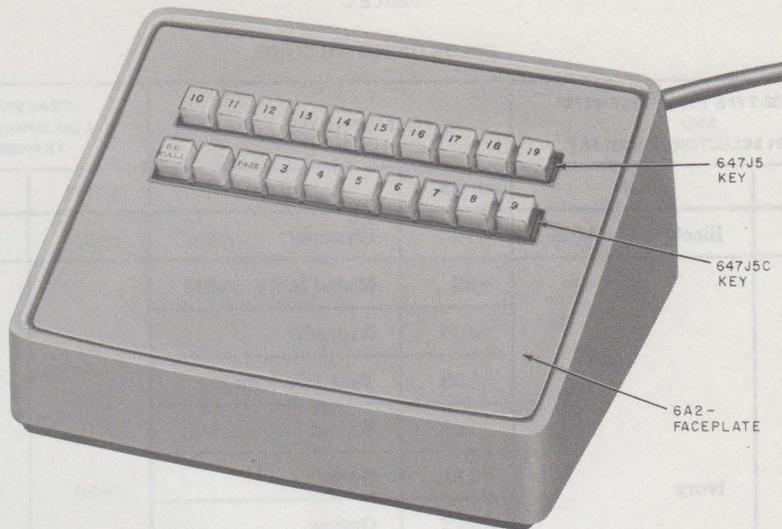

Fig. 7—6A1 Selector Console (DSS)
2.08 The 6A1 selector console (Fig. 7) is a 20-button console providing a 17-button DSS field with station busy lamps. Of the three remaining buttons, one is used as a paging button, one is used as an intercom recall button, and one button is spare. Ivory (-50) is the standard console color, and a 6A2-* faceplate must be ordered with each console. The 6A1 selector console is normally used in addition to the attendant's telephone set to provide DSS on the intercom.